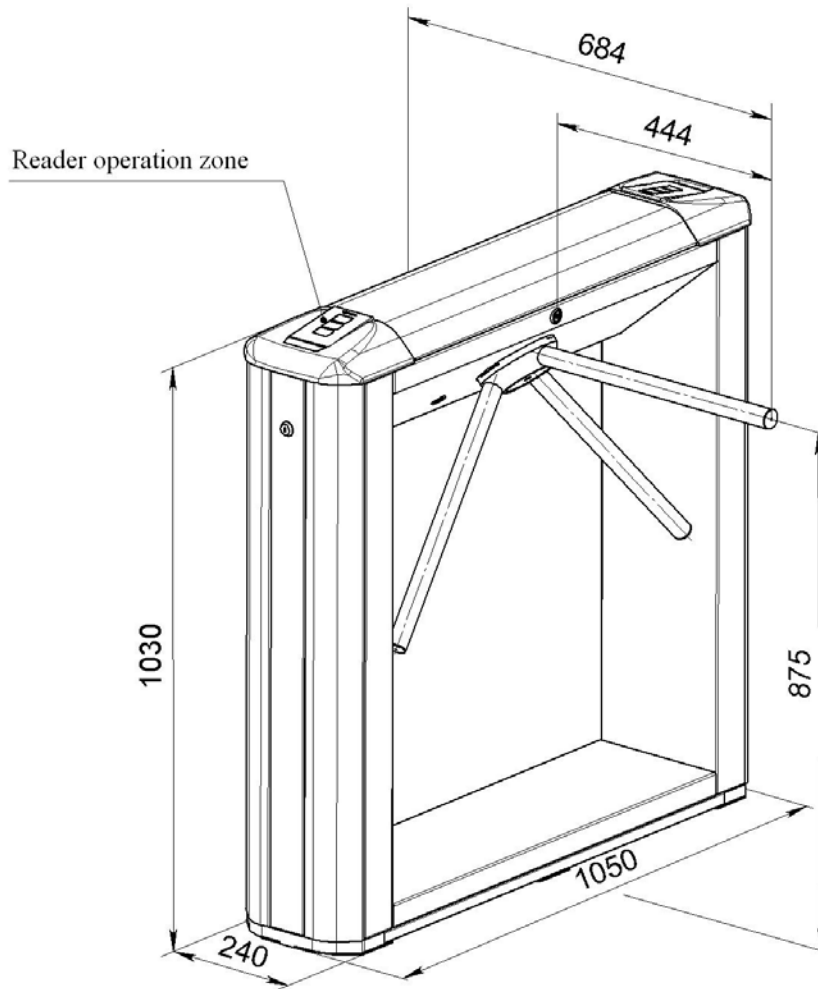

Figure 2 – Overall dimensions of the TBC-01 turnstile
The turnstile housing is fixed to floor with 4 anchor bolts through holes in the turnstile housing base (2). The overall dimensions of the TBC-01 turnstile housing are shown in Figure 2.